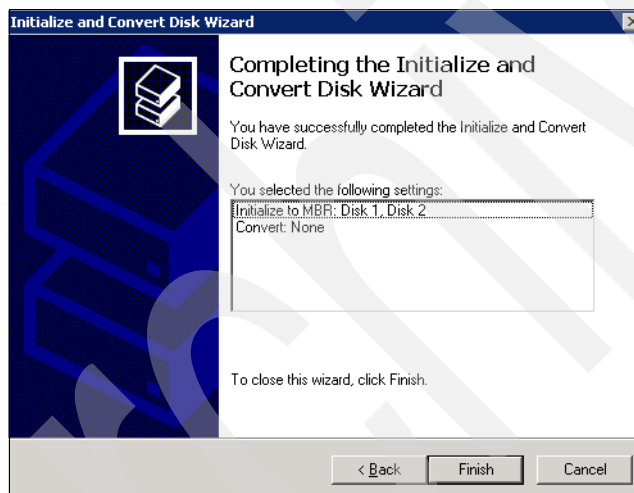

Figure 25-16 Completing the Initialize and Convert Disk Wizard
4. The Completing the Initialize and Convert Disk Wizard shows you a summary of your selections (Figure 25-16). Review them and click **Finish** to complete the tasks.